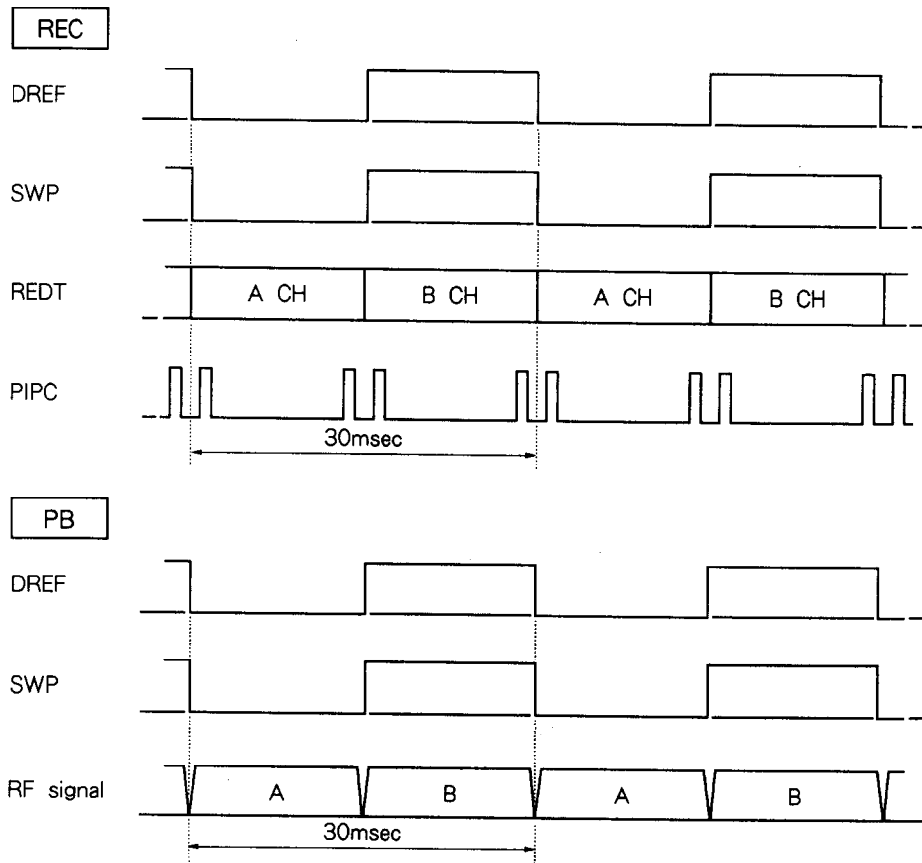

Fig. 7-3. Timings of Signals(SP Mode)
The FG and PG signals from the drum motor are first wave shaped in the sensor amplifier (IC504). The FG signal is then input to Pin ⑦⑩ of CXP80524 (IC506) and the PG signal to Pin ⑦①. Inside CXP80524, the FG period is calculated by FRC (Free Running Counter) interruption of the FG and this period is deducted from the reference data. The resultant error data is output from Pin ⑦⑦ as the 32kHz basic wave PWM. The PG on the other hand is input to the SWP generation circuit together with the FG to generate the SWP at the timing shown in Fig. 7-3. (The position for writing in the track can be adjusted by varying VR501. For details, refer to the section "SWP Position Adjustment" in the service manual SUPPLEMENT 1.) The phase of this SWP is compared with that of DREF (made from the reference signal for interleaving in the CXD2605R signal processor), and the resultant error is added to the error data of the FG.
In the SP mode, the speed of the drum when the drum servo is locked is 2000rpm during both recording and playback. In the LP mode, it is 1000rpm during recording and 2000rpm during playback. Table 7-1 shows the frequencies of DREF, SWP, and FG at these times. Fig. 7-3 shows the timing of these signals in the SP mode. As shown in the figure, DREF and SWP have the same phases during both recording and playback. The data for recording (REDT) and the discrimination signal indicating the ATF pilot area (PIPC) are output from the CXD2605R (IC508) signal processor at the timing they synchronize with DREF and SWP. Likewise, the RF signal for playback is also output from the RF module at the timing it synchronizes with DREF and SWP.